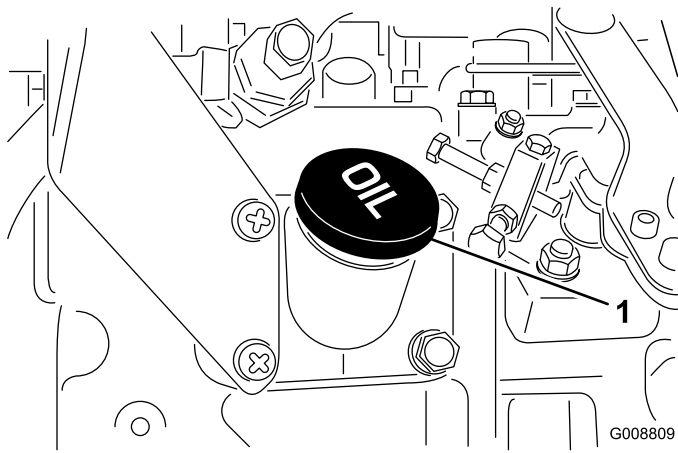

Figure 35
4. If the oil is below the safe range, remove the fill cap (Figure 35) and add oil until the level reaches the FULL mark. **Do not overfill.**